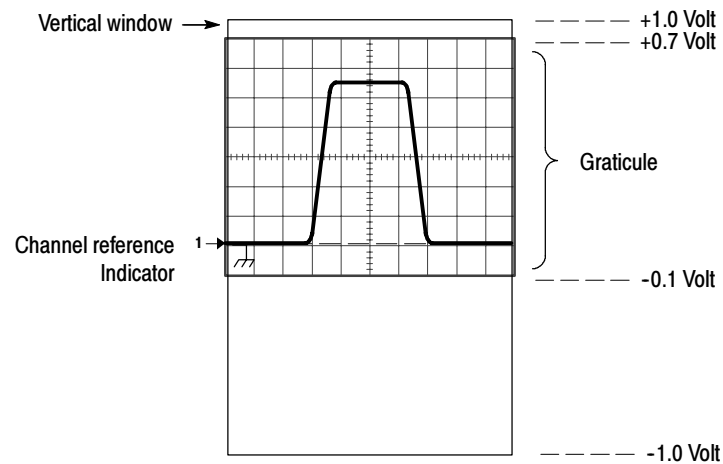

Figure 3-2: Setting vertical range and position of input channels
- The vertical volts per division you set determines the vertical size of the acquisition window, allowing you to scale it to contain all of a waveform amplitude or only part. Figure 3-2 on page 3-16 shows two vertical acquisition windows that contain the entire waveform, but only one window contains the entire waveform in the graticule on screen.
- The vertical range (window) is always centered around the offset value. It is the voltage level at the middle of the vertical acquisition window. With no (zero) offset, as shown in Figure 3-2 a and b, that voltage level is zero (ground).